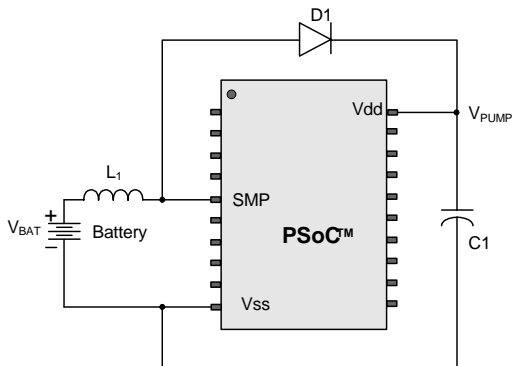

Figure 3-2. Basic Switch Mode Pump Circuit
a. $L_1 = 2 \mu\text{H}$ inductor, $C_1 = 10 \mu\text{F}$ capacitor, $D_1 = \text{Schottky diode}$. See Figure 3-2.